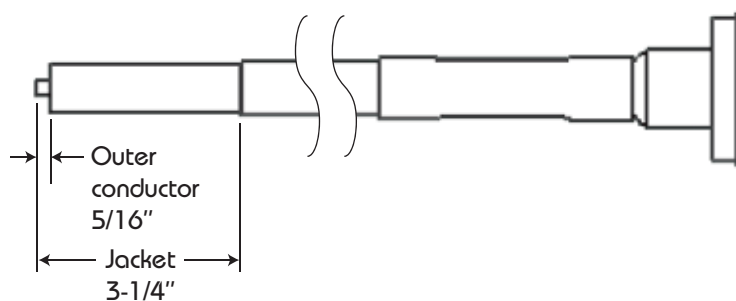

Figure 1. Cut back the jacket and the outer conductor.
Step 1: Prepare the cable end (figure 1).